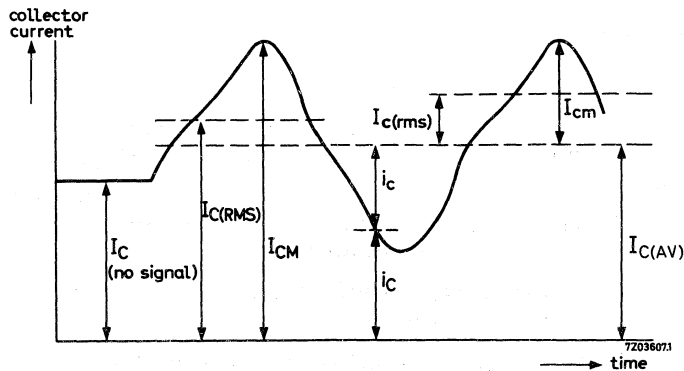

Fig.1
4. List of subscripts (examples, see figure 1)
Figure 1 represents a transistor collector current, consisting of a direct current and a signal, as a function of time.